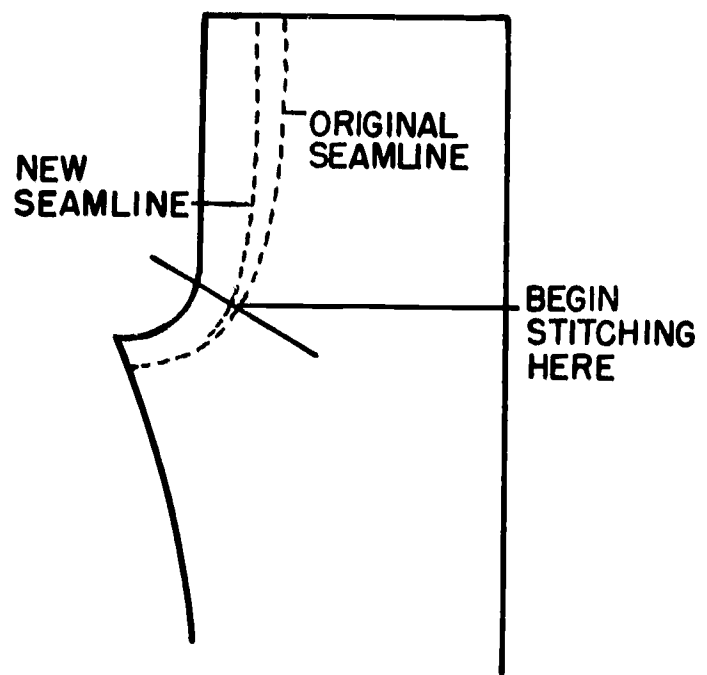

Figure 58.
5. Stitch from point where original seam evens out and taper to chalk mark at the top of the facing (see Figure 58).